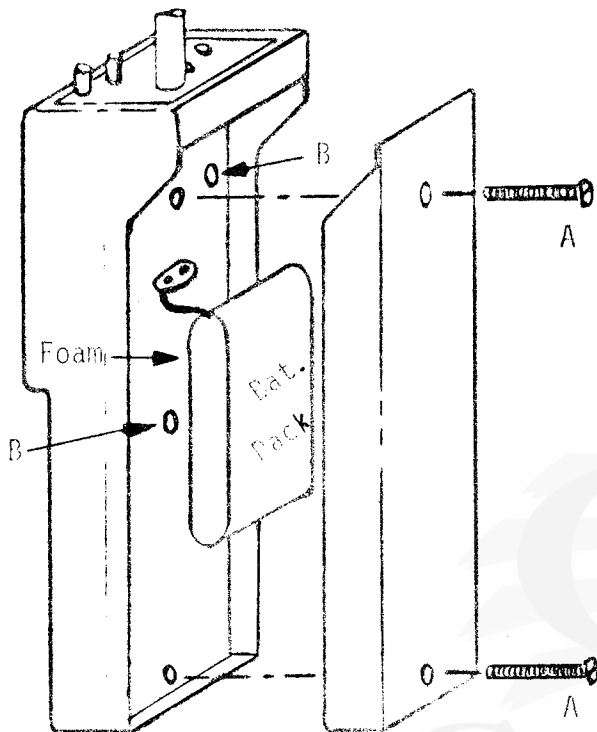

Figure 4-2. Disassembly
The transceiver covers are easily removed; refer to Figure 4-2 below and proceed as follows:
2. Remove two #4-40 x 1" pan-head machine screws which secure back cover to transceiver (Fig. 4-2, item "A").
4. Remove two #4-40 pan-head machine screws (Figure 4-2, item "B") which secure PC board to FRONT cover.
against resistor leads or coils; then, check routing of speaker wires to insure they will not be pinched when mounting screws "B" or "A" (Figure 4-2) are installed.
4. Turn transceiver over on its front side and be sure PC board is fully seated in FRONT cover. Now install two 4-40 machine screws (Figure 4-2, item "B").